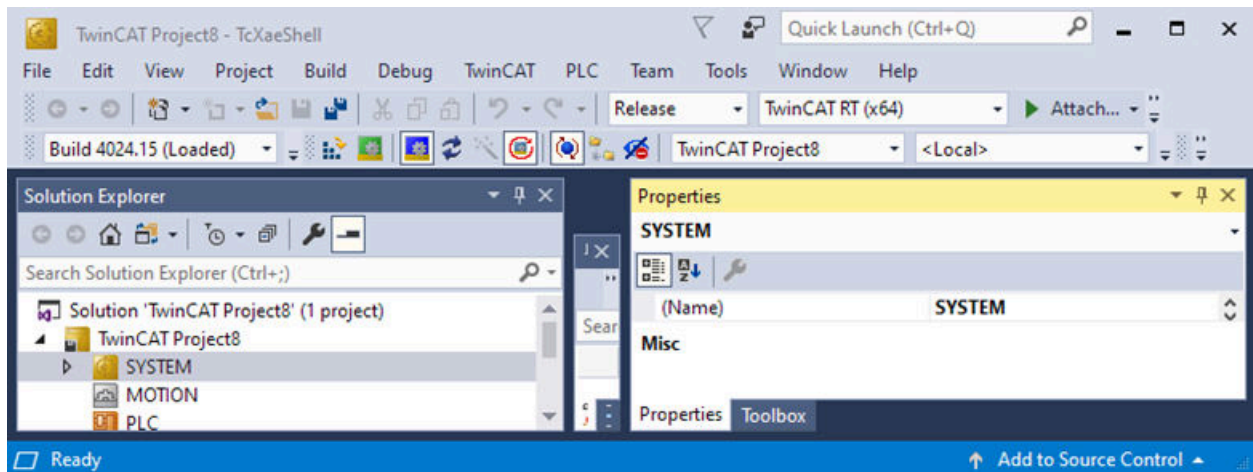

Fig. 12.2: Project running configuration
3. The *Restart TwinCAT (Config Mode)*, *Toggle Free Run State*, and *Show Online Data* buttons should all be pressed, as shown in Fig. 12.2.